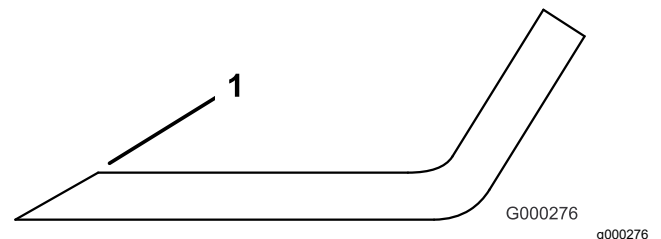

**Figure 99**
2. Examine the cutting ends of the blade carefully, especially where the flat and curved parts of the blade meet (Figure 99).
**Note:** Because sand and abrasive material can wear away the metal that connects the flat and curved parts of the blade, check the blade before using the mower. If wear is noticed (Figure 99), replace the blade.